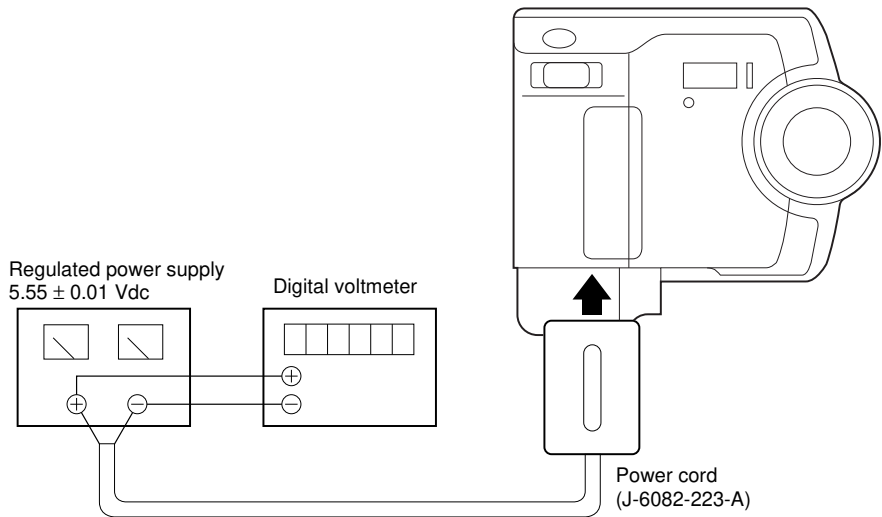

Fig. 5-1-28
- 1) Connect the regulated power supply and the digital voltmeter to the battery terminal as shown in Fig. 5-1-28.